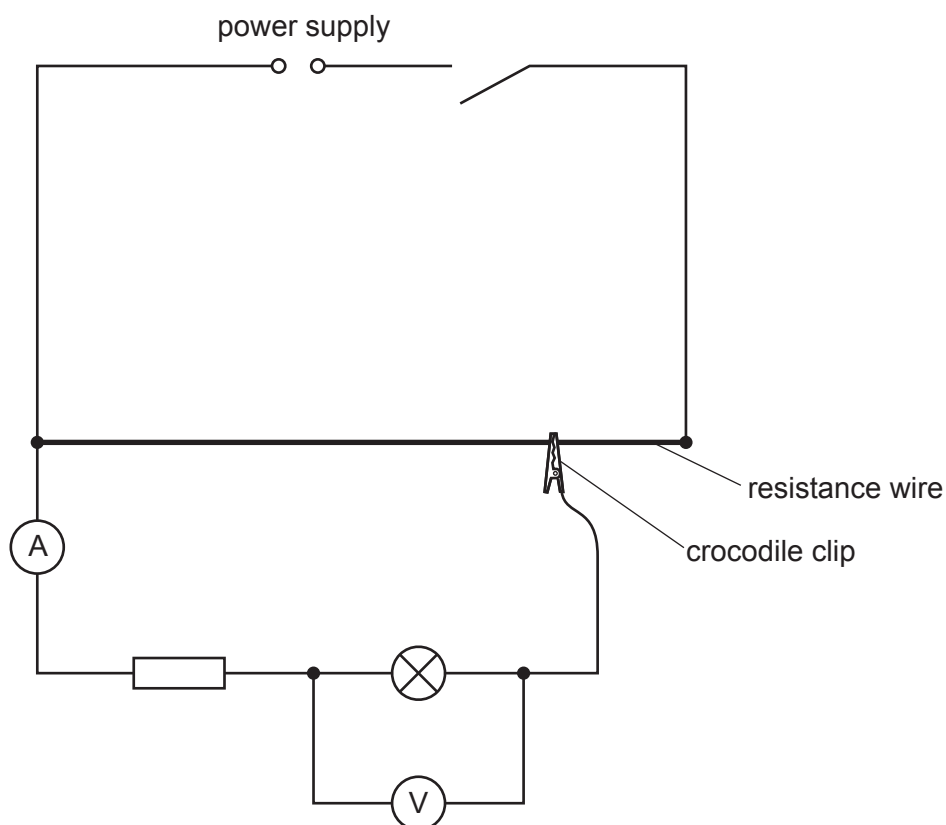

Fig. 3.1
- 3 A student investigates a resistor and a lamp connected in series. She uses the circuit shown in Fig. 3.1.